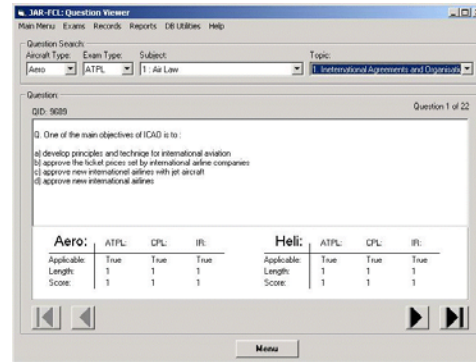

Figure 5: Question Browser
1. Question Browser: The question browser (see Figure 5) allows viewing of any subset of the JAA question bank and can be filtered according to Aircraft Type, Exam Type, Subject and Topic.